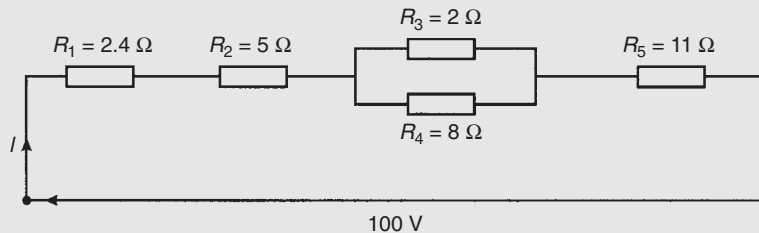

Figure R2.1
- Resistances of $5\ \Omega$, $7\ \Omega$, and $8\ \Omega$ are connected in series. If a 10 V supply voltage is connected across the arrangement determine the current flowing through and the p.d. across the $7\ \Omega$ resistor. Calculate also the power dissipated in the $8\ \Omega$ resistor. (6)
- For the series-parallel network shown in Fig. R2.1, find (a) the supply current, (b) the current flowing through each resistor, (c) the p.d. across each resistor, (d) the total power dissipated in the circuit, (e) the cost of energy if the circuit is connected for 80 hours. Assume electrical energy costs 14p per unit. (15)
- The charge on the plates of a capacitor is $8\ \text{mC}$ when the potential between them is $4\ \text{kV}$. Determine the capacitance of the capacitor. (2)
- Two parallel rectangular plates measuring $80\ \text{mm}$ by $120\ \text{mm}$ are separated by $4\ \text{mm}$ of mica and carry an electric charge of $0.48\ \mu\text{C}$. The voltage between the plates is $500\ \text{V}$. Calculate (a) the electric flux density (b) the electric field strength, and (c) the capacitance of the capacitor, in picofarads, if the relative permittivity of mica is 5. (7)
- A $4\ \mu\text{F}$ capacitor is connected in parallel with a $6\ \mu\text{F}$ capacitor. This arrangement is then connected in series with a $10\ \mu\text{F}$ capacitor. A supply p.d. of $250\ \text{V}$ is connected across the circuit. Find (a) the equivalent capacitance of the circuit, (b) the voltage across the $10\ \mu\text{F}$ capacitor, and (c) the charge on each capacitor. (7)
- A coil of 600 turns is wound uniformly on a ring of non-magnetic material. The ring has a uniform cross-sectional area of $200\ \text{mm}^2$ and a mean circumference of $500\ \text{mm}$. If the current in the coil is $4\ \text{A}$, determine (a) the magnetic field strength, (b) the flux density, and (c) the total magnetic flux in the ring. (5)
- A mild steel ring of cross-sectional area $4\ \text{cm}^2$ has a radial air-gap of $3\ \text{mm}$ cut into it. If the mean length of the mild steel path is $300\ \text{mm}$, calculate the magnetomotive force to produce a flux of $0.48\ \text{mWb}$. (Use the B–H curve on page 74) (8)